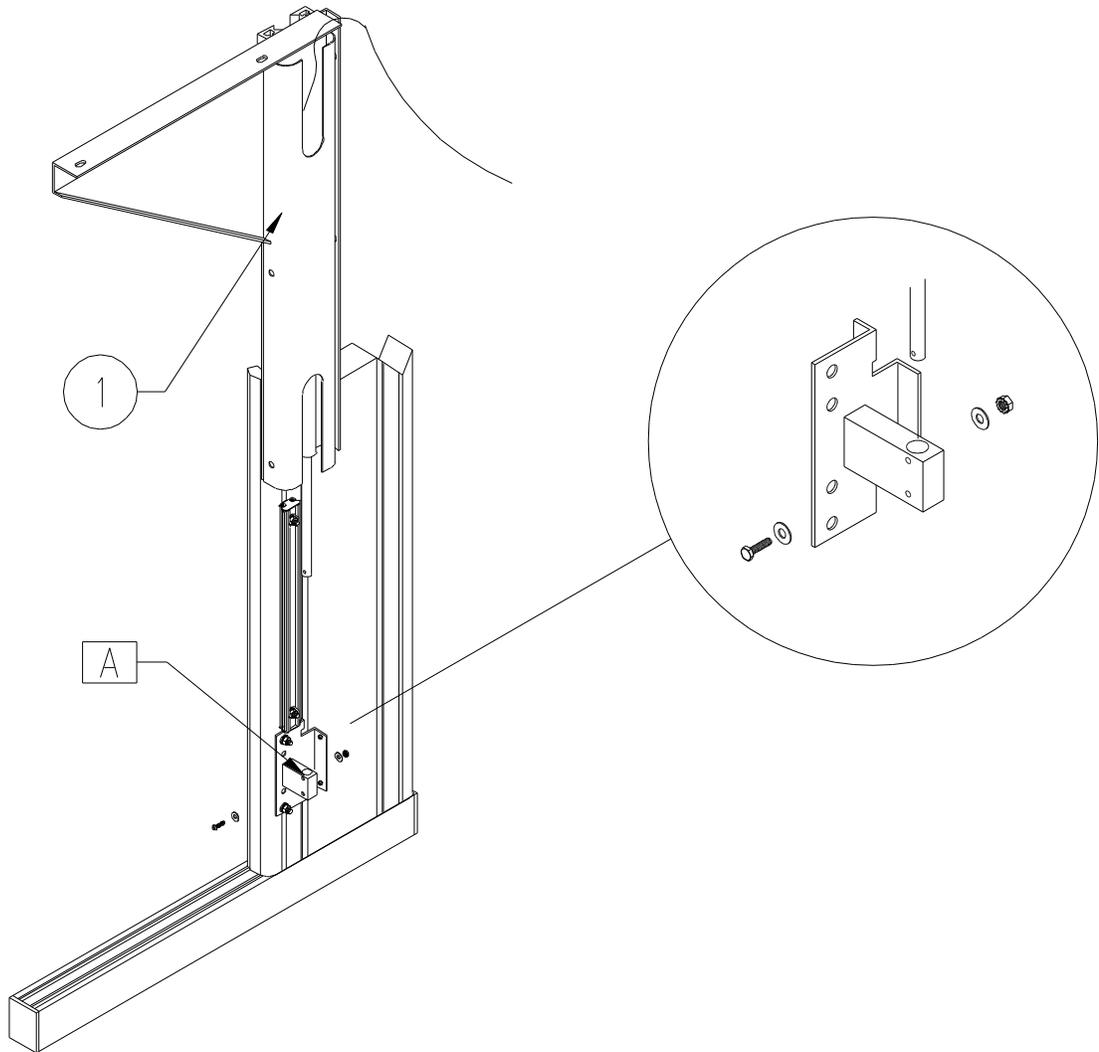

Figure 4
STEP 5: To attach the worksurface support assemblies item 1 of Figure 4 position the motor housing assembly between the bench uprights in front of the modesty panel. Plug the power cord of the motor housing assembly into a 115 VAC power source. Using the motor switch turn the motor system on in the UP direction so that the cylinder shafts extends approximately 8" out of the cylinder housing. Being careful not to damage the hydraulic lines carefully align the
worksurface support assemblies extruded aluminum runners shown in Figure 4 over the guide assembly attached to the uprights. Feed the end of the cylinder shaft into mounting hole in the cylinder support bracket as shown. Attach the cylinder shaft to the cylinder support bracket using 10-32 x 1.00 phillips machine screw, #10 flat washers and 10-23 hex keps nuts as shown in Figure 4. Tighten nuts. Repeat this for both sides of bench. **DO NOT LOWER** the pump system at this time.